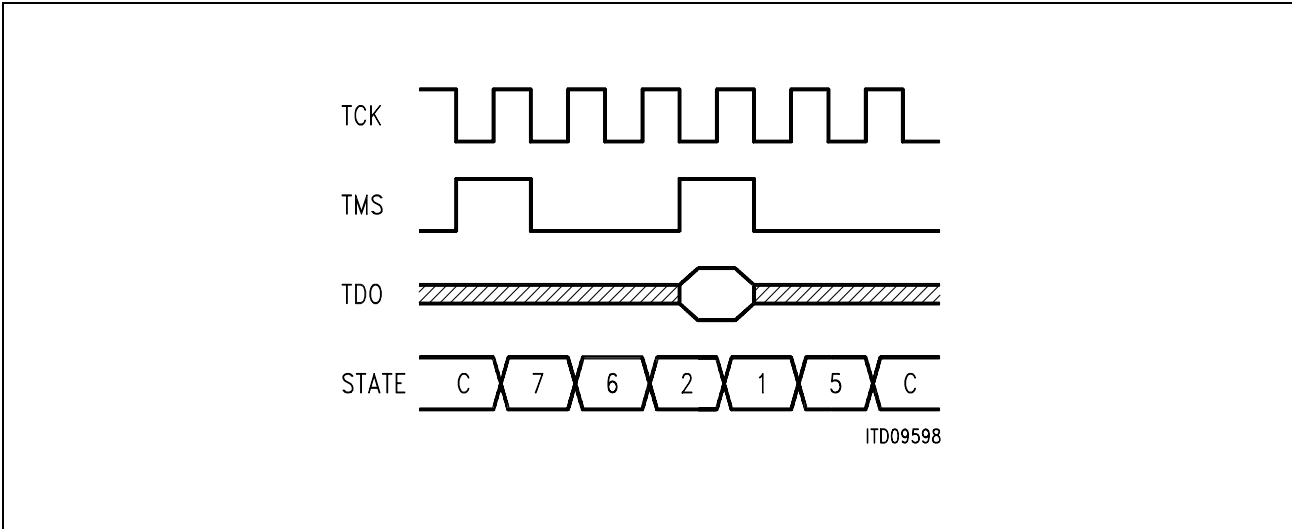

Figure 7
- Bit STAR:STOK can be shifted out (see **figure 7**).